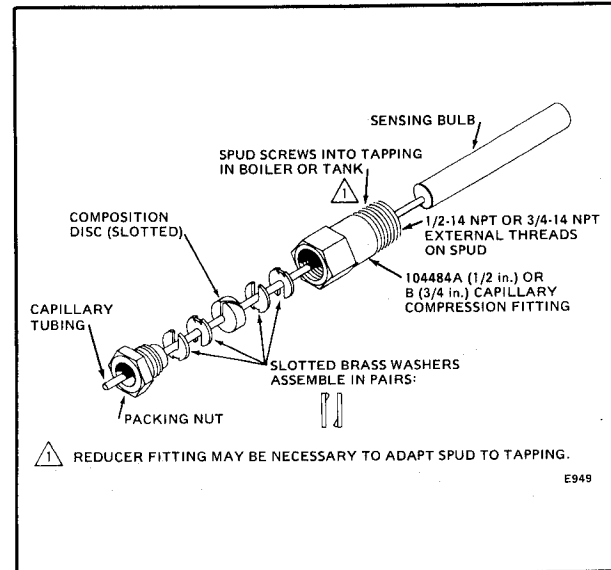

FIG. 3—TUBING COMPRESSION BOILER FITTING.
4. Place composition disc and four slotted brass washers on tubing in the order shown in Fig. 3. Turn brass washers so that slots are at 180 degrees to each other.